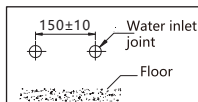

Figure 1
- 3.The installation size of the purchased faucet must match the installation size of the embedded water inlet pipe. (Figure 1)